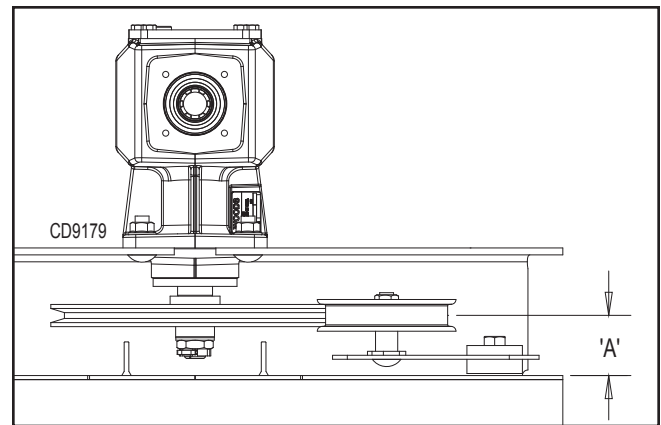

Figure 25. Drive Sheave Installation
1. Install drive sheave (48) and key (71) on gearbox output shaft.
2. Install sleeve (49), washer (50), and castle nut (52) on gearbox output shaft. Torque castle nut to 170 lb-ft. Install cotter pin (51) through castle nut and gearbox output shaft.
3. Slide gearbox onto gearbox stand. When gearbox is installed on mower, dimension A (from the top of mower deck to the center line of the drive pulley) must be 2-3/4" ($\pm 1/8$ "). **This is a critical dimension and must be carefully adjusted for proper belt life.** Add or subtract shim washers under idler sheave to align with drive sheave. See Figure 25.
4. Install carriage bolts (25) and new flange lock nuts (8) through gearbox base. Torque nuts to 175 lb-ft.